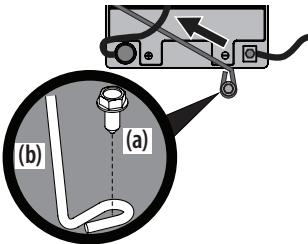

Figure 15
**NOTE:** Wiring harness should lay on top of battery hold down rod, otherwise damage to the wiring harness may result. See Figure 15 on page 12.
- Remove the battery hold down rod by pushing the hooked end out of the tab on the fender to the right side of the battery. Then flip the battery hold down rod up to free the battery. See Figure 15.